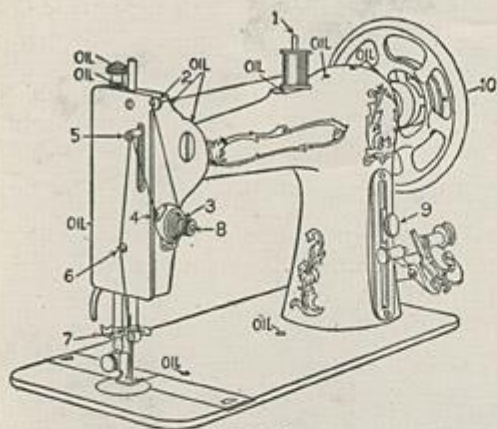
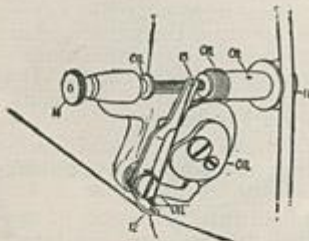
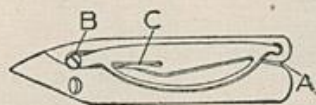

Figure 1
Figure 4
Figure 5
If the sewing machine is used continuously IT SHOULD BE OILED EVERY DAY. With moderate use a drop of oil on the bearings just before operating the machine is sufficient. The pictures, Figures 1, 2 and 3, show the points where the oil should be applied. ONE DROP OF OIL at each point is plenty. More than this will retard rather than help the action of the machine. Oil holes are provided in the arm of the machine for parts which cannot be directly reached.
Loosen the thumbnut (10), Figure 1, page 2, so the handwheel will turn free. Raise the presser foot and take out the shuttle. Place your feet on the treadle with the instep directly over the center. Draw the belt downward with the hand and move the feet up and down on the rocking treadle by pressing on the treadle first with the heel and then with the toes until an easy and steady motion is obtained. When that is accomplished, tighten the thumbnut (10), Figure 1, page 2, and repeat the treadle process until you can easily start the machine in the proper direction and can make a smooth motion. After becoming familiar with the treadle movement in this way, put a cloth under the presser foot and lower it, and without threading the machine, practice the treadle motion until you have complete control of it, when you will be ready to sew.
(See Figure 1, Page 2.)
Hold handwheel with the left hand while turning the thumbnut (10), Figure 1, page 2, toward you with the right hand. This will release the sewing mechanism of the machine. Pull bobbin winder toward you until the small pulley wheel (11), Figure 4, comes in contact with the belt. Operate the machine until the distributor (13) is as far to the right as it will go. Place one end of the bobbin in the socket of the spindle on the right side and the other end of the bobbin in the socket of the step, pulling the step nut (14) toward the left to admit the bobbin and letting it spring back into place.
Catch the end of the thread between the brass end of the bobbin and center of the spindle on the right side, carrying the thread through slot (13), then to the lower end of the distributor to the slot (13), then up over eyelet (2), Figure 1, page 2, placing the spool on the spool pin. Run the machine as previously instructed and the bobbin will be automatically wound. Be sure to stop winding before the thread is wound higher than the brass ends of the bobbin.
Seldom, if ever, change the tension on your shuttle. If it is necessary to change the tension do so by turning the tension regulator nut (8) on side of arm in Figure 1, page 2. Make a quarter turn, then sew a short distance, after which, if it is necessary to do so, you can turn the thumb-nut another quarter, and so on until you obtain the desired result. If it is necessary to change the shuttle tension, follow the same procedure, turning the tension regulator screw marked B on Figure 5.